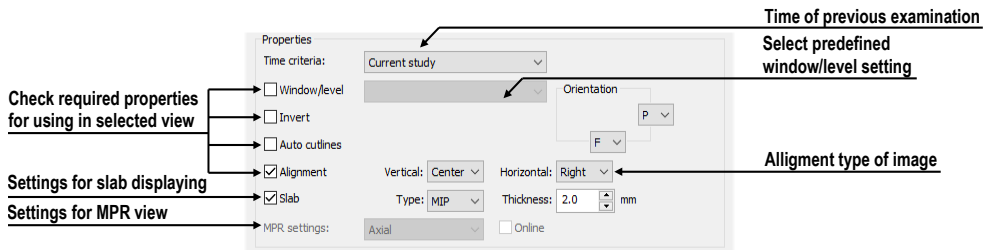

**Figure 192 – DICOM criteria set dialog**
4. Define the allowed values for the specified DICOM tag (see Figure 192):